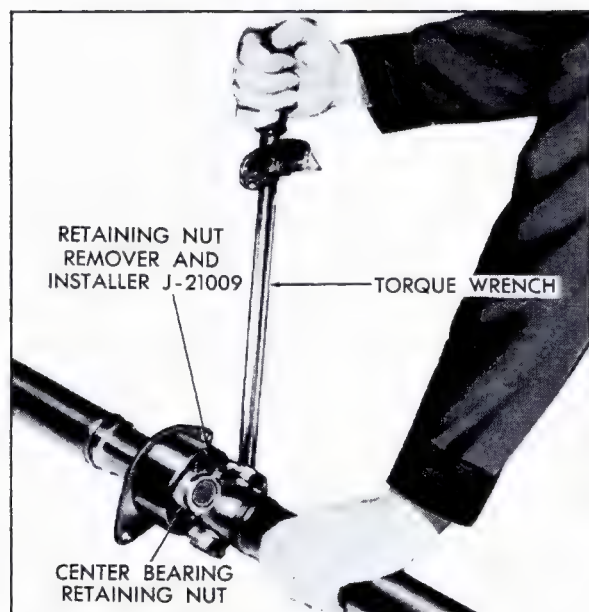

Fig. 4-26 Tightening Center Bearing Retainer Nut
8. Tighten center bearing retaining nut to 55 foot-pounds using Center Bearing Retaining Nut Remover and Installer J-21009, and a torque wrench, Fig. 4-26.